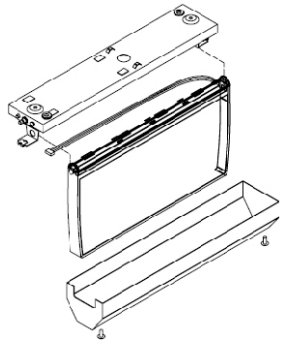
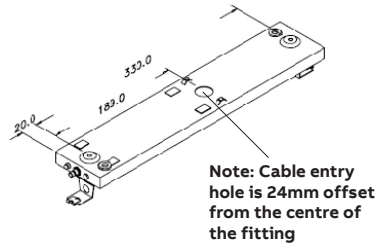

Figure 1a: Showing sequence of components
Figure 1b: Mounting and cable entry hole dimensions
1. The base of the fitting is installed first on the ceiling (refer figure 1a), the mounting and cable entry hole dimensions shown in figure 1b can be used as a template, for the purpose of marking/drilling. Once the base is installed on the ceiling, connect the incoming unswitched active, neutral and earth to terminal marked USA, N and E respectively. Connect the DALI control wires to the DALI terminal block.